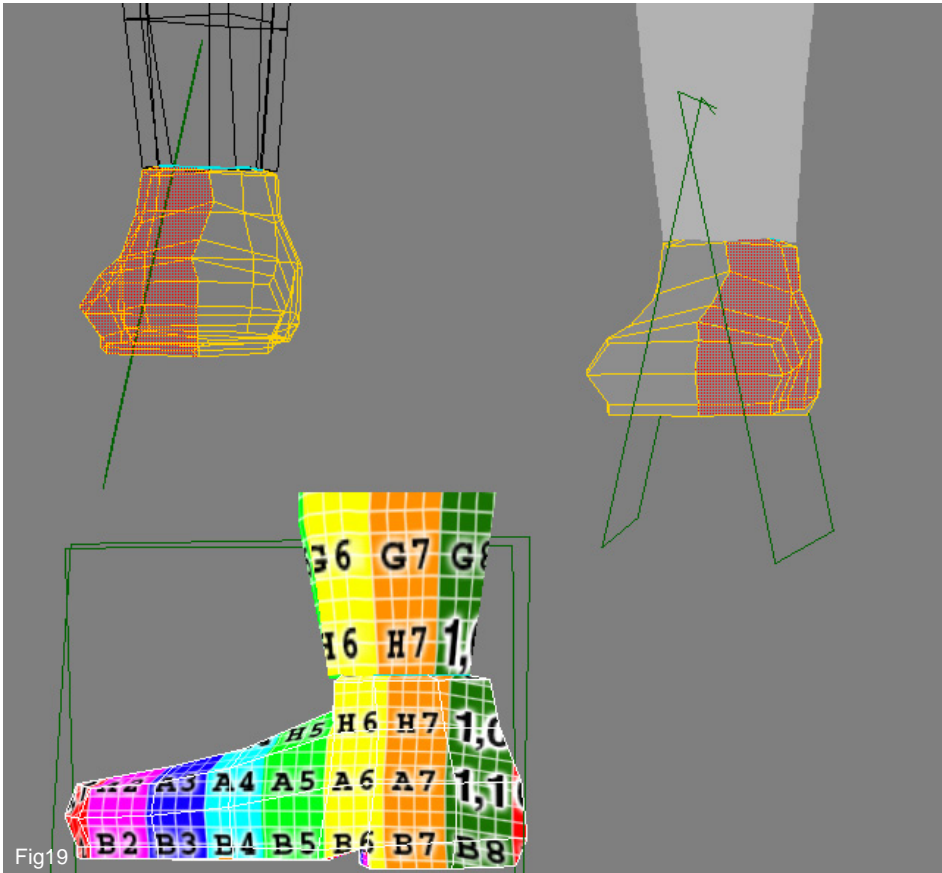

Fig19
19. You can still use the same procedure with the lower leg and the feet. Use a cylindrical projection for the lower leg, and two planar projections for each side of the foot, like shown in Fig19. You may need to rotate the planes of the planar projections to best fit the texture and avoid stretching.